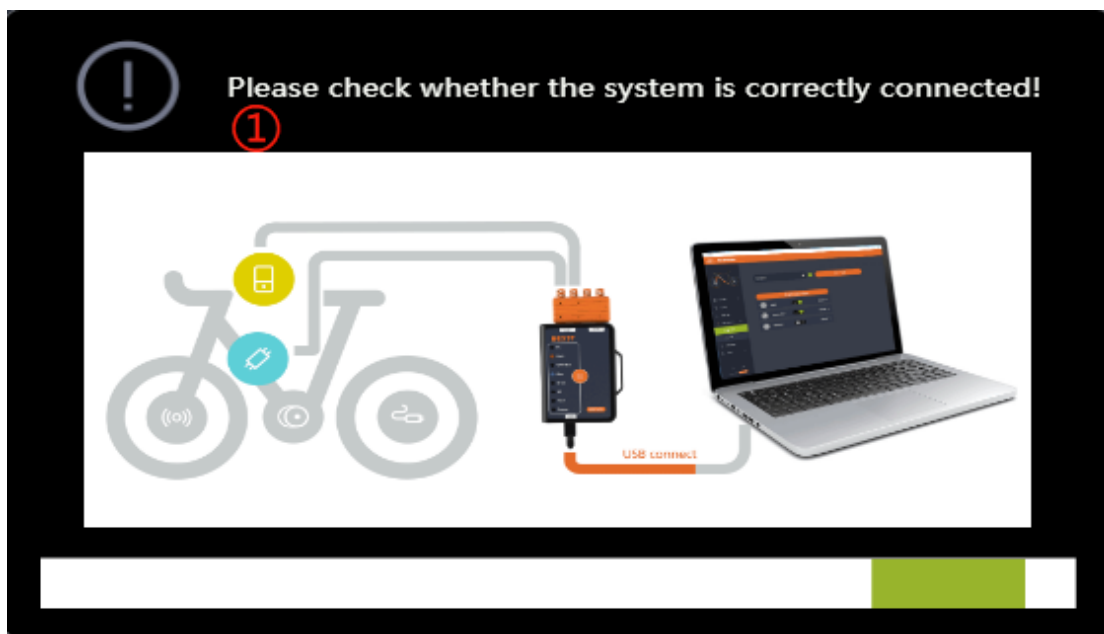

Fig. 3-1 Part inspection
- (1) After logging in, the system will detect the connection of the whole bicycle parts and prompt the user to check whether the system is correctly connected ( Fig.3-1);